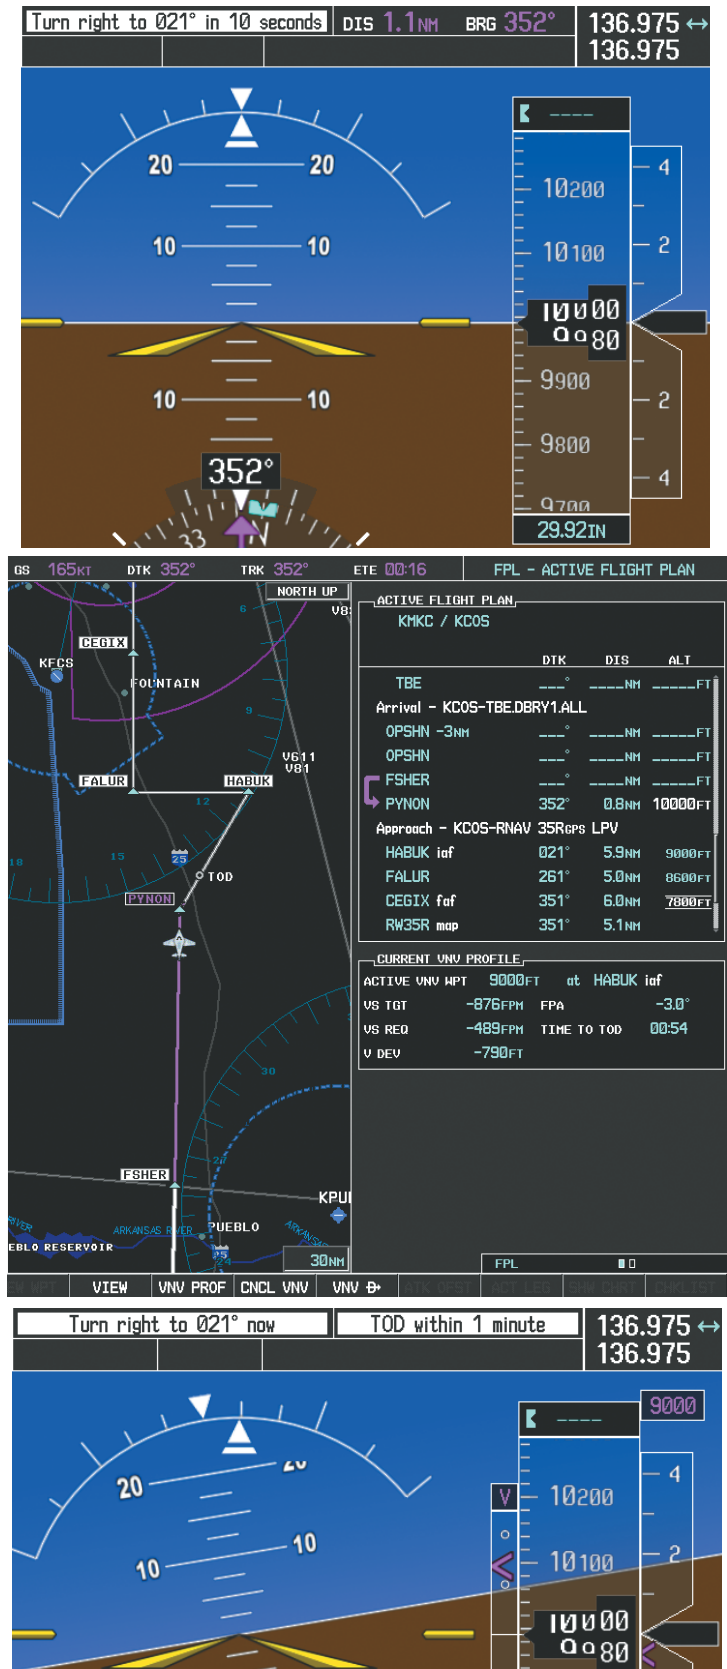

Figure 5-136 Approaching PYNON
- 20) The flight continues through the arrival procedure to PYNON (see Figure 5-136). At a point 31 nm from the destination airport, the phase of flight scaling for the CDI changes to Terminal Mode and is annunciated by displaying 'TERM' on the HSI.